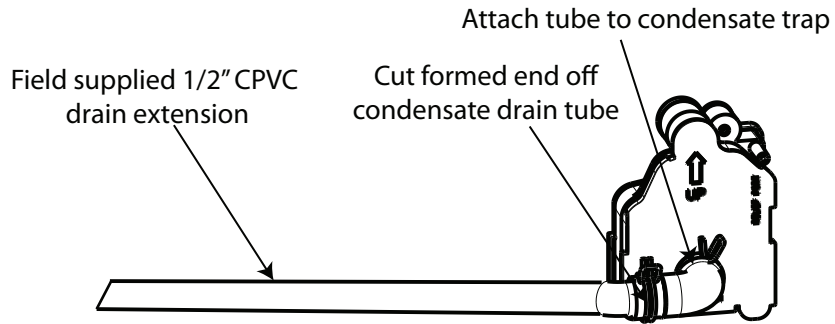

Fig. 3 - Condensate Drain
5. To connect the modify drain tube and remaining condensate drain, follow the steps below. Refer to Fig. 3.